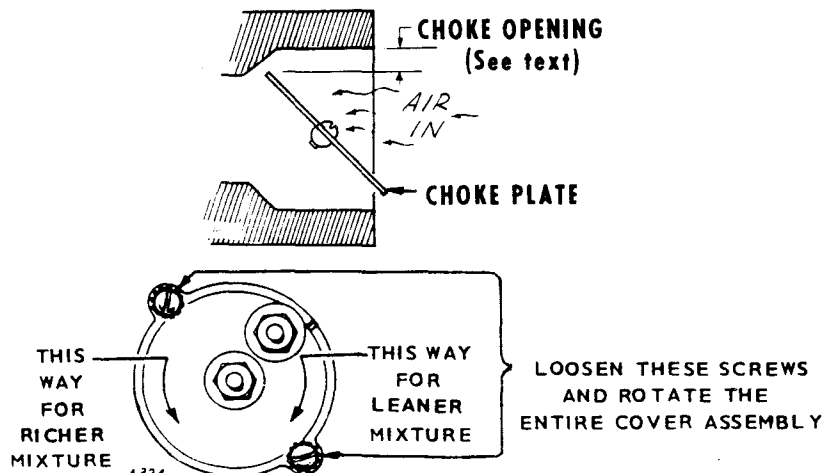

Figure 6. Adjusting Automatic Choke
**Adjustment, Electric Choke:** Under normal operation, adjust the choke so the distance measured between the choke plate and carburetor throat (Fig. 6) is as shown in the table with the engine cold. Use the straight shank end of a drill bit to measure the gap. The air cleaner must be removed for choke adjustment. To adjust the choke, loosen the 2 screws on the endplate and rotate the cover assembly.
Approximate settings for the choke are given in Figure 6.